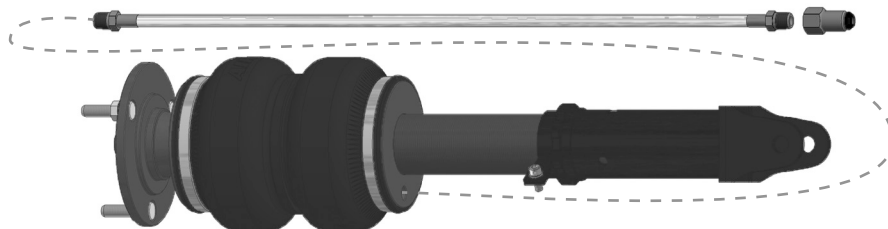

Fig. 6
1. Begin by installing the leader line into the air spring. Tighten the appropriate fitting to the leader line 1 3/4 turns beyond hand-tight. Tighten the leader line into the air spring 1 3/4 turns beyond hand-tight (Fig. 6).